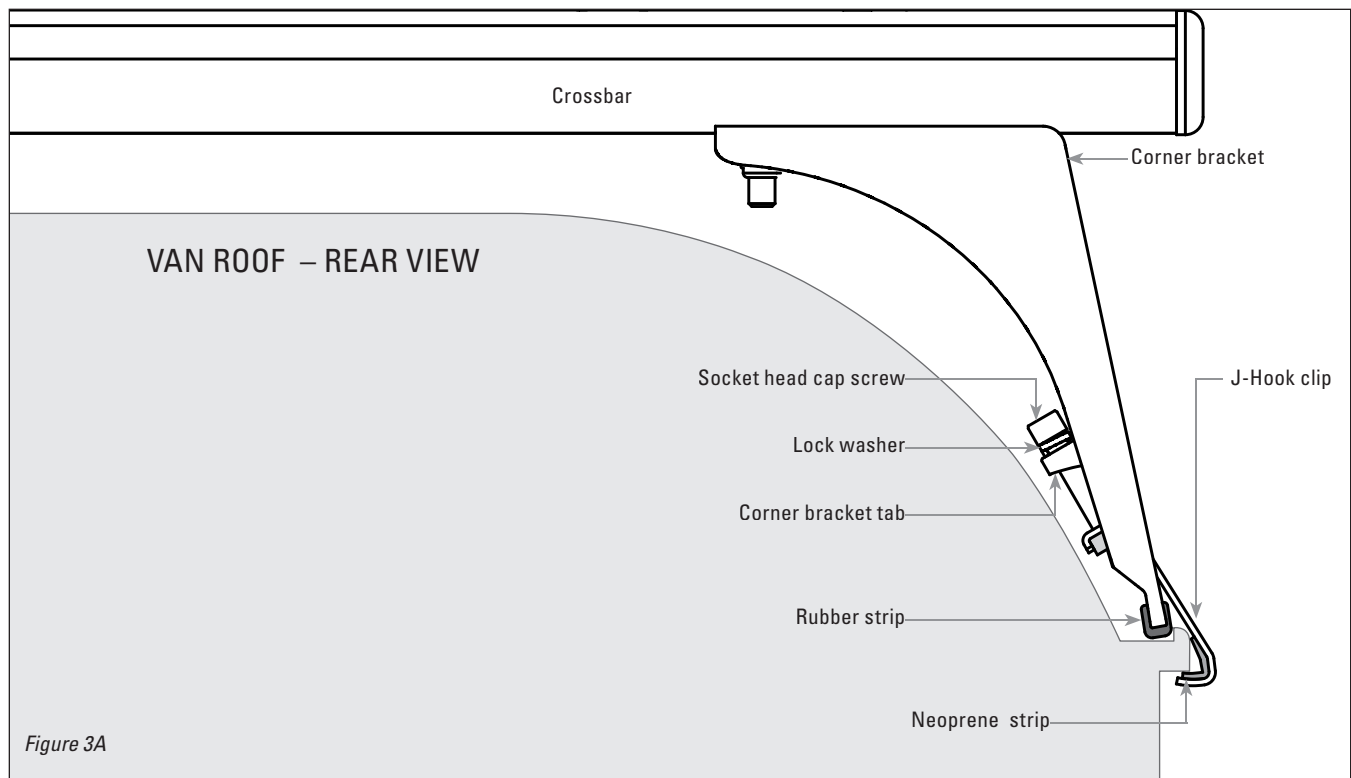

Figure 3A
9. The lower edge of each Corner Bracket fits snugly into the top corner of the van's rain gutter. Place the J-Hooks with Neoprene Strips around the outside edge of rain gutter (see Fig 3A).